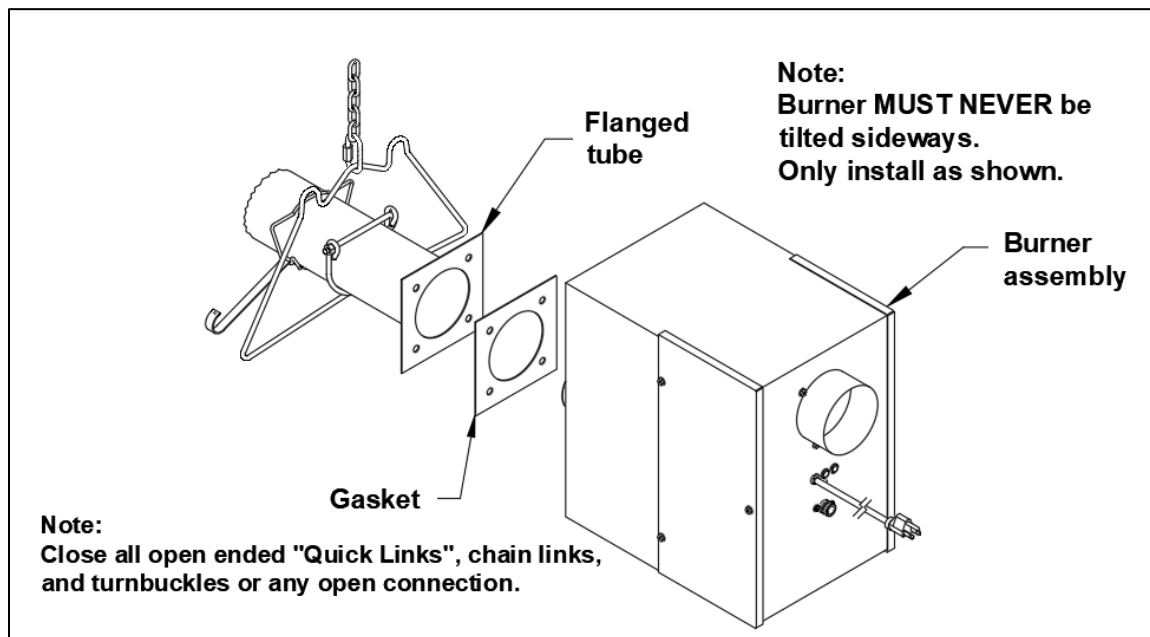

Figure 11: Burner Gasket Installation
- Locate the burner gasket provided, bolt the burner in place on the tube flange with provided hardware. **Burner must never be installed in a tilted position.** The sense electrode of the burner cup should be in the 12 o'clock position (Figure 11)